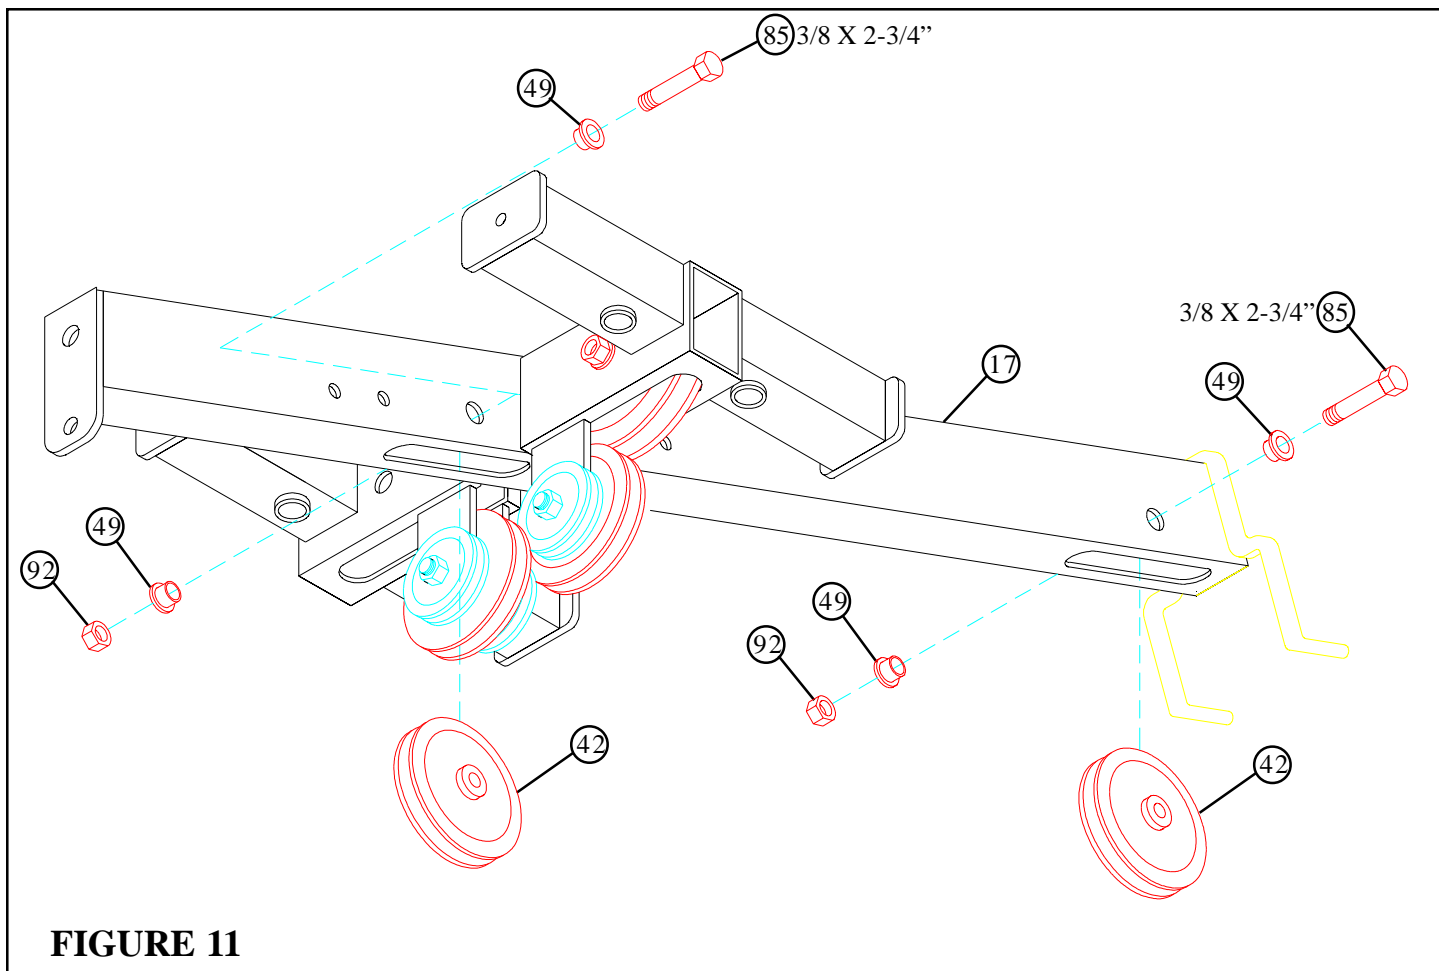

FIGURE 11
- **LOOSELY** assemble two 3-1/2" PULLEYS (42) to the TOP BOOM (17) using two 3/8 X 2-3/4" BOLTS (85), four 3/8" FLANGE SPACERS (49), and two 3/8" LOCK NUTS (92). See FIGURE 11.